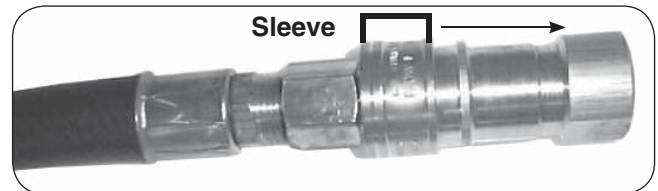

Fig. 1-3 Pull sleeve back
1. Pull socket sleeve back (Fig. 1-3).